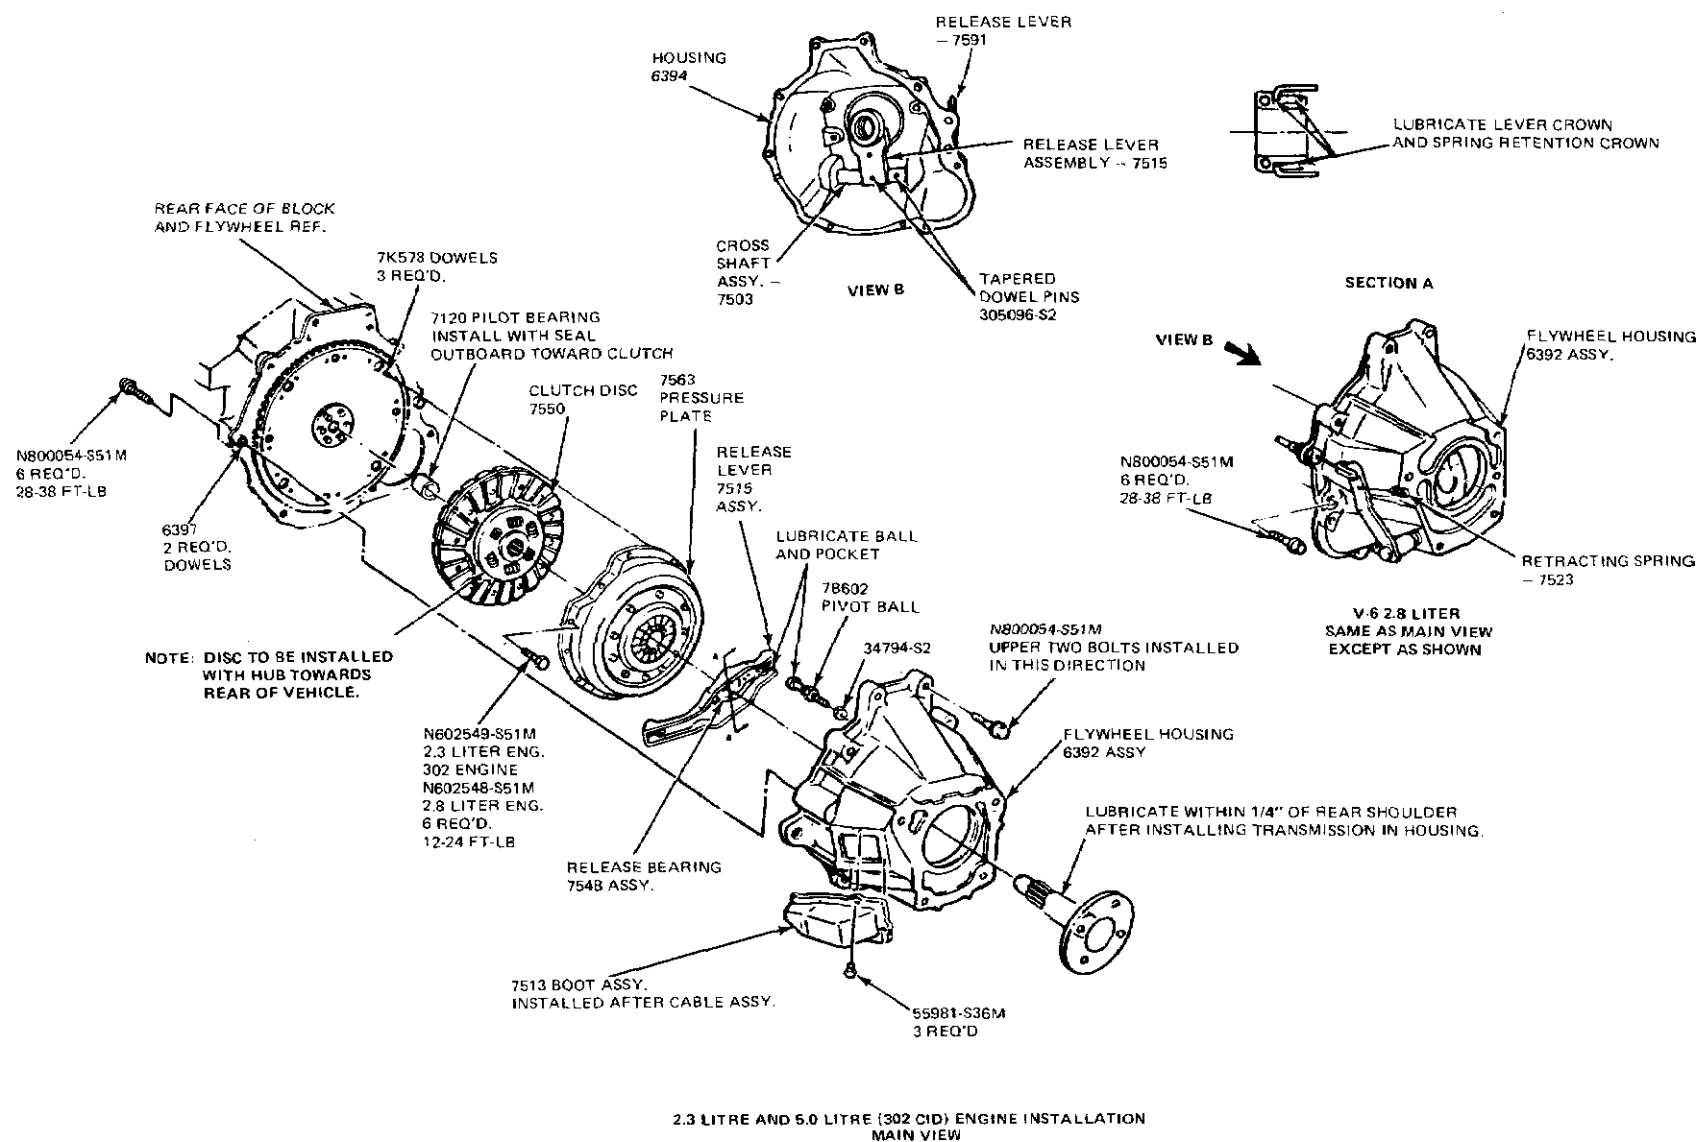

FIG. 5 Clutch Assembly—Mustang II—2.3 Litre, 2.8 Litre and 5.0 Litre (302 CID)
MUSTANG II 2.3 LITRE AND 5.0L (302 CID) (REFER TO FIG. 5)
11. Loosen the six pressure plate cover attaching bolts evenly to release the spring tension without distorting the cover. If the same pressure plate and cover are to be reinstalled after the clutch is removed, mark the cover and flywheel so that the pressure plate can be reinstalled in the same position (Fig. 5).
MUSTANG II (2.8 LITRE) V6 ENGINE (REFER TO FIG. 5)
7. Remove the clutch retracting spring (Fig. 5)
9. Loosen the six pressure plate cover attaching bolts (Fig. 5) evenly to release the spring tension gradually and avoid distorting the cover. If the same pressure plate and cover are to be reinstalled, mark the cover and flywheel so that the pressure plate can be reinstalled in its original position. Remove the pressure plate and clutch disc from the flywheel.